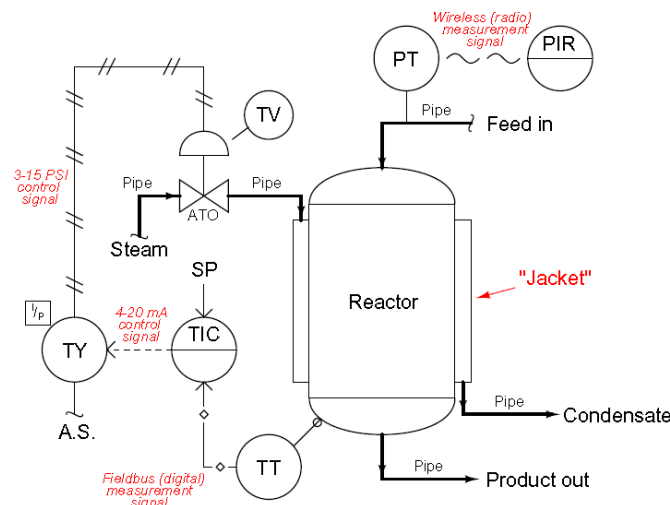

Figure 1: P&ID for chemical reactor temperature control
Temperature measurement is an important parameter needed in the petrochemical industries. Thermocouples and Resistance Temperature Detectors are often used in this industry to help monitoring temperature responses within the plant. One of the common process in the petrochemical is chemical reactor temperature control. Figure 1 shows the P&ID for the process piping, vessels and instruments.
From Figure 1, the temperature of the reactor is monitored by the temperature transmitter (TT). Signal is fed into the temperature indicating controller (TIC) for display and continuous monitoring. The temperature monitoring is important to ensure the process produce good quality products and therefore from time to time, you and your team members are asked to in order to calibrate and check for the sensors performance and also seek for alternative which might be used for future sensor replacement. Commonly, thermocouple is used in the petrochemical plant due to its wide range of temperature sensing, however there are many new temperature sensors available that can be used in this process. You and your team is required to produce a report and a demo monitoring system for all the provided temperature sensors with technical proofs and